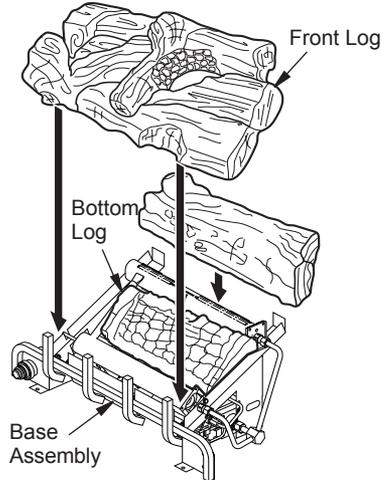

Figure 27 - Installing CRB and HRB Model Log Sets
1. Place bottom log in center of the base assembly as shown in Figure 27.
2. Rest rear log in back corner sections of base assembly as shown in Figure 27. Make sure log is completely vertical and not leaning in toward burner where the flame will touch the log.
3. Position front log as shown in Figure 27, making sure the grooves in the bottom of the log fit over the grate prongs.